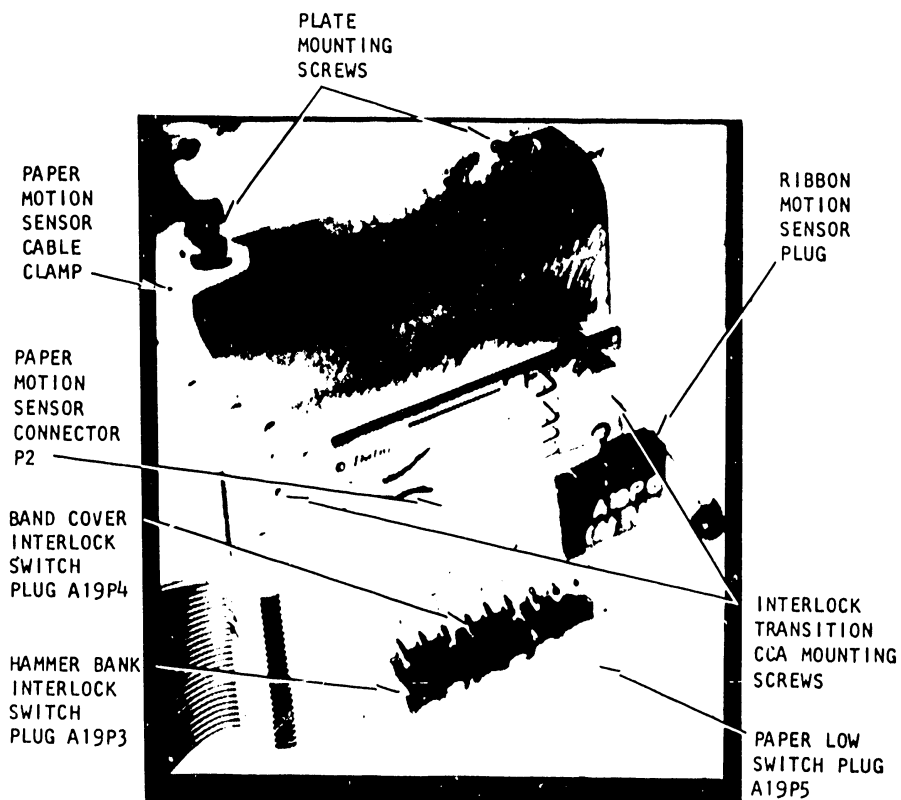

Figure 3-16. Interlock Transition CCA
- c. Remove the hammer bank interlock switch plug A19P3 from the Interlock Transition CCA. See **figure 3-16**.
- e. Open the hammer bank. Using an 8mm nut driver, remove the two (2) screws that secure the hammer bank mask and remove the mask.
- o. Install the two (2) front and two (2) rear guide shaft mounting brackets with their mounting screws. Ensure that the hammer bank guide shafts are pushed firmly against the front clamp stops.
- v. Using a 4mm nut driver, mount the Paper Feed Assembly loosely with the four (4) screws that secure it to the hammer bank. Perform the Paper Feed Assembly adjustment. See instructions in the Maintenance Guide.
3.4.6 Interlock Transition CCA Removal/Replacement (Figure 3-16)
- f. Mount the Interlock Transition CCA to its mounting plate with the two (2) screws removed in **step e**. See **figure 3-16**.
- g. Secure the Interlock Transition CCA and the paper motion sensor cable clamp to the printer casting with the two (2) screws removed in **step c**.